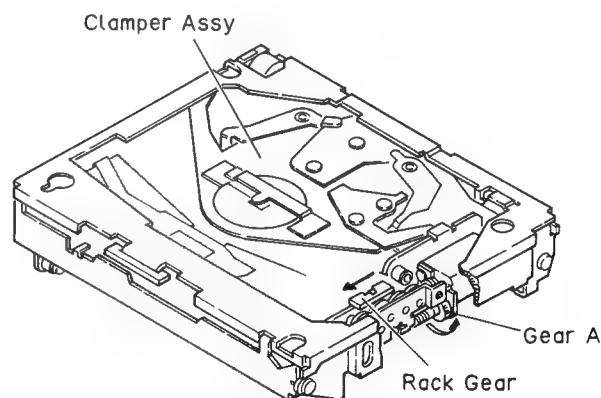

Fig. 13
1. Turn the gear A manually in the arrow direction. (Fig.13)
2. Press the rack gear in the arrow direction and engage gears. (Fig.13)
3. Put into the play mode. (The clamber assembly is at low position.)(Fig.13)